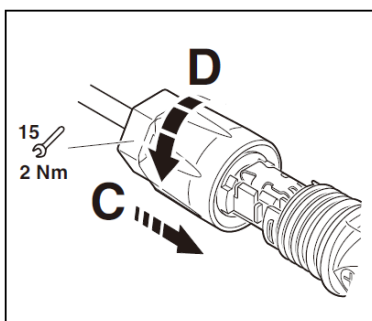

Figure 5-13
6. Push the insert into the sleeve (Figure 5-13, C).
7. Tighten the cable gland to 2 Nm (Figure 5-13, D). Use a suitable and calibrated torque wrench of size 15. Use an open-jaw wrench, size 16, to hold the connector in place.